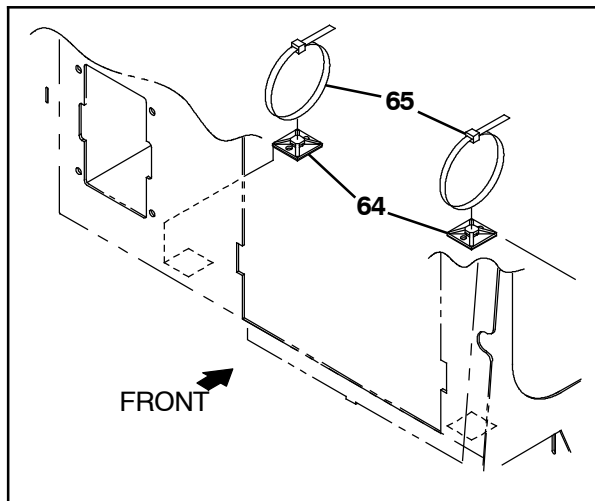
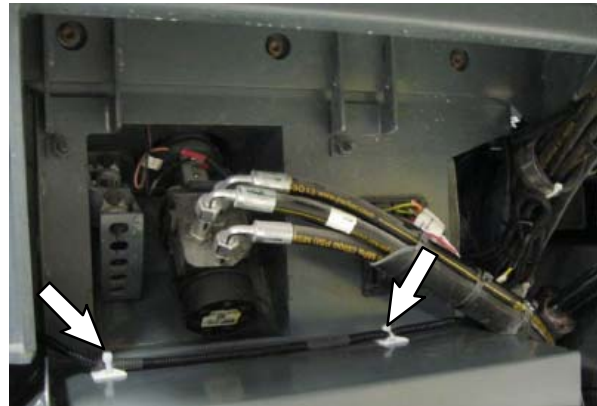

FIG. 22
FIG. 23
- 123. Clean the area on the front of the operator station where the two cable tie mounts (64) will be installed. (Fig. 22)
- 124. Use two cable ties (65) to secure the wet dust harness (66) to the cable tie mounts (64) installed on the operator station. (Fig. 22 / Fig. 23)
- 125. Use two cable ties (65) to secure the wet dust harness (66) to the cable tie mounts (64) installed on the operator station. (Fig. 22 / Fig. 23)